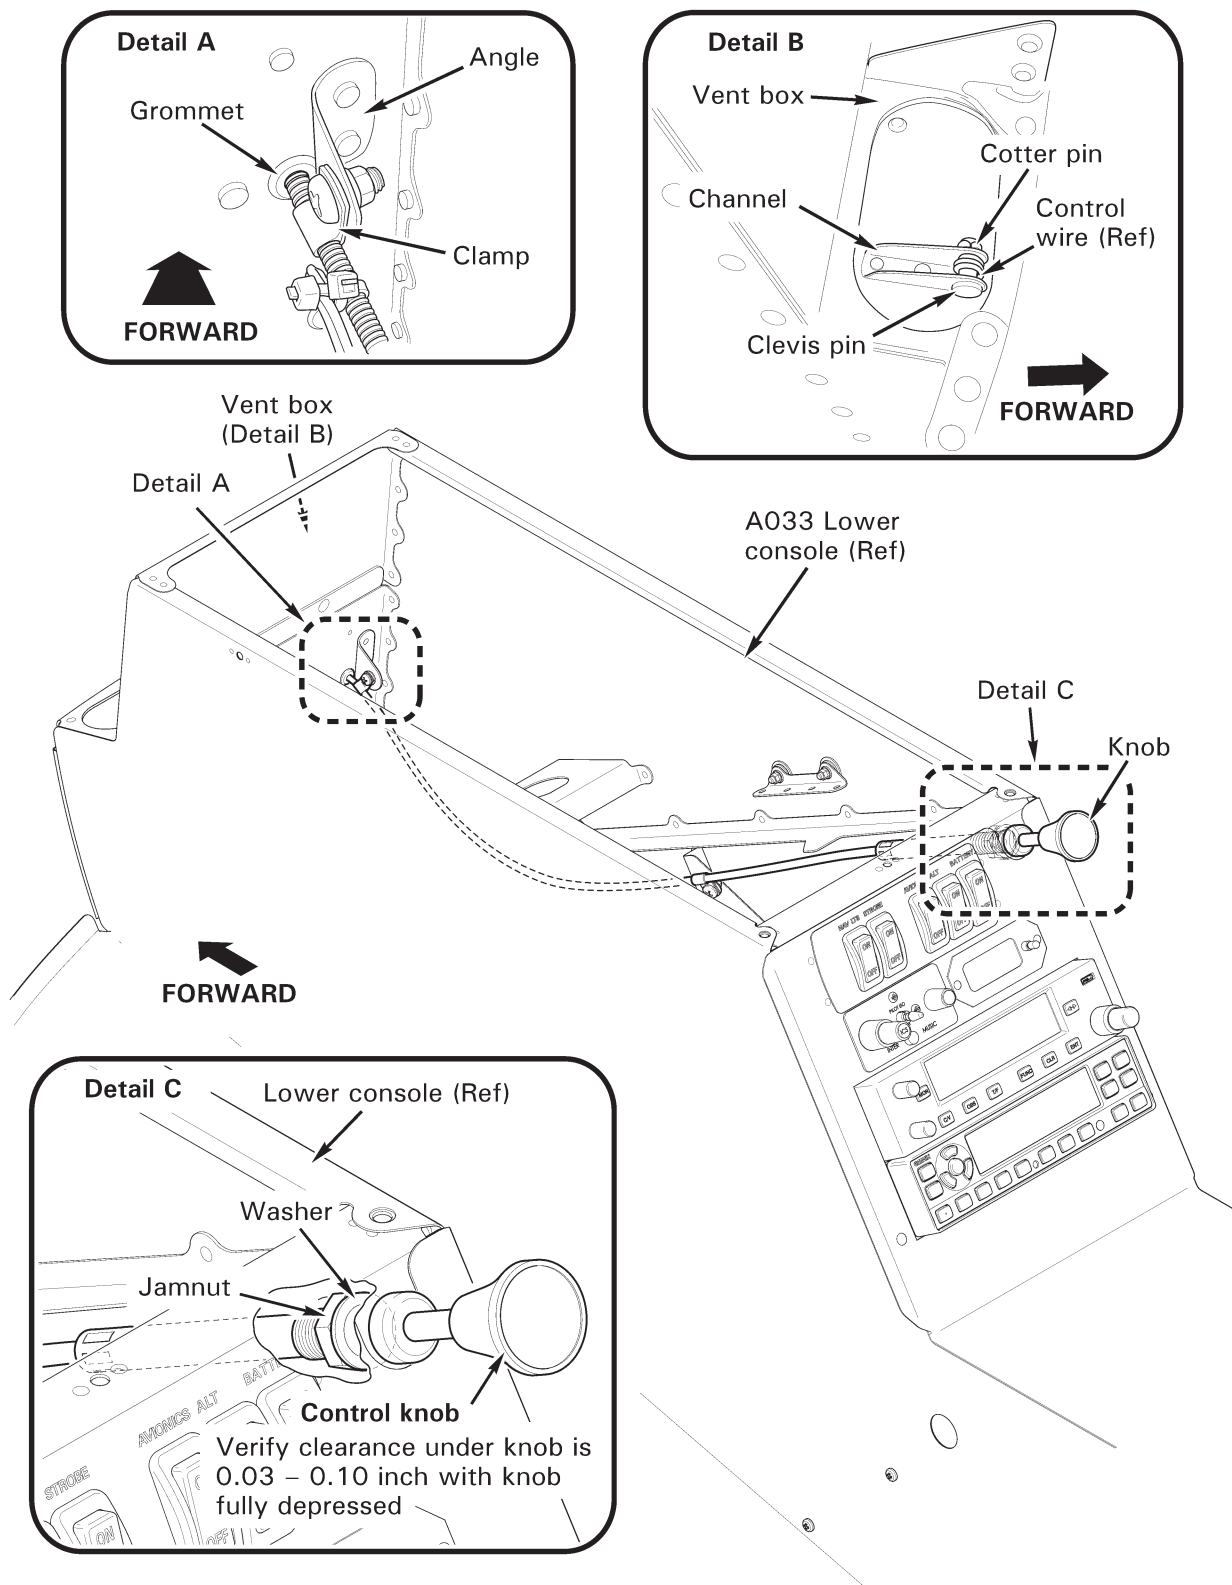

FIGURE 11-1 NOSE VENT
1. Refer to Figure 11-1. Remove Aspen PFD per § 13-61, if installed. Remove screws securing upper console to lower console and tilt upper console aft. Protect instrument face with foam support or equivalent.
1. Refer to Figure 11-1. Position A522-1 (air vent) control in lower console, install lockwasher and jam nut on control, and tighten nut against console support assembly. Verify security.